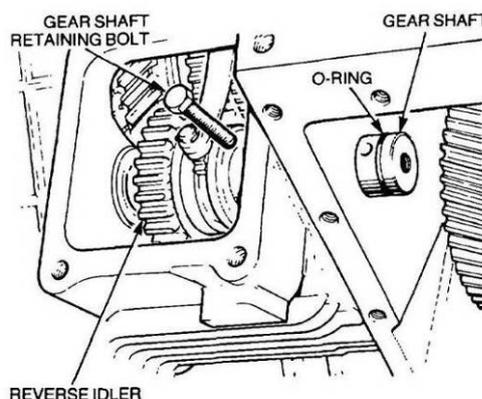

Figure 165 Removal of the Reverse Idler Gear and Shaft
- p. Remove the bolts and washers retaining the side and bottom covers (if fitted). Remove the bolt retaining the reverse idler gear shaft in the transmission casing (Figure 165).